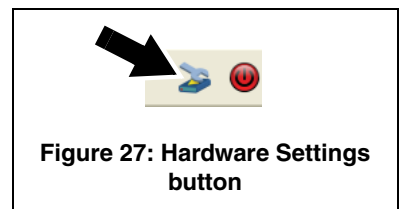

Figure 27: Hardware Settings button
2. See Figure 27. Click on the **Hardware Settings** button (arrowed).
1. See Figure 27. Click on the **Hardware Settings** button (arrowed).
2. See Figure 27 on page 27. Click on the **Hardware Settings** button (arrowed).